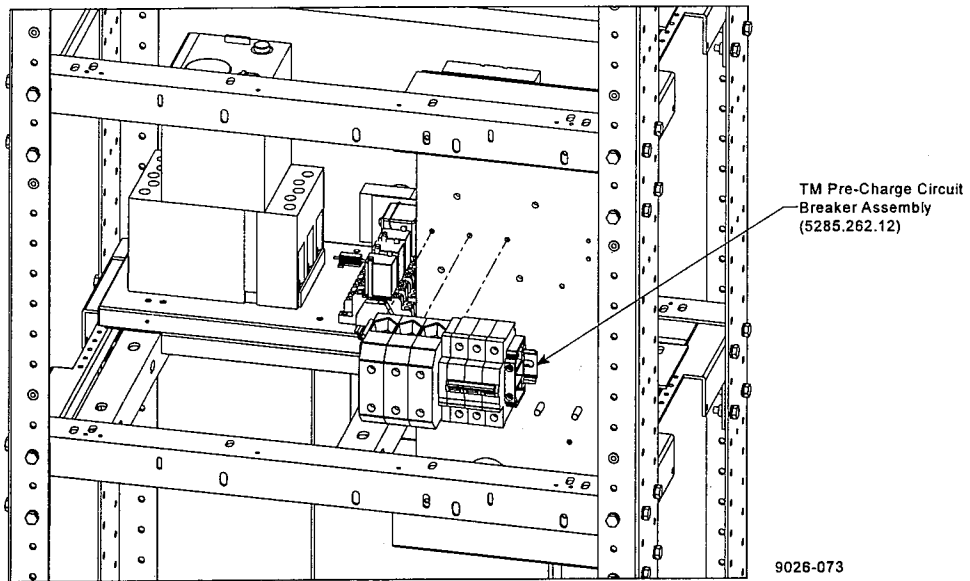

FIGURE 3 POWER SHELF (FRONT VIEW)
- ✓ 12. Using existing threaded holes on the power supply chassis, install the Pre-Charge Circuit Breaker Assembly 5285.262.12. (See **FIGURE 3**).